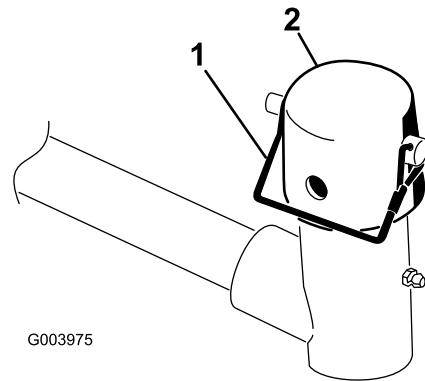

Figure 9
2. Remove the snapper pin and the cap from the lift-arm pivot yoke (Figure 9).
Note: Use the slot if a steering cutting unit is desired or use the hole if the cutting unit is to be locked in position (Figure 9).